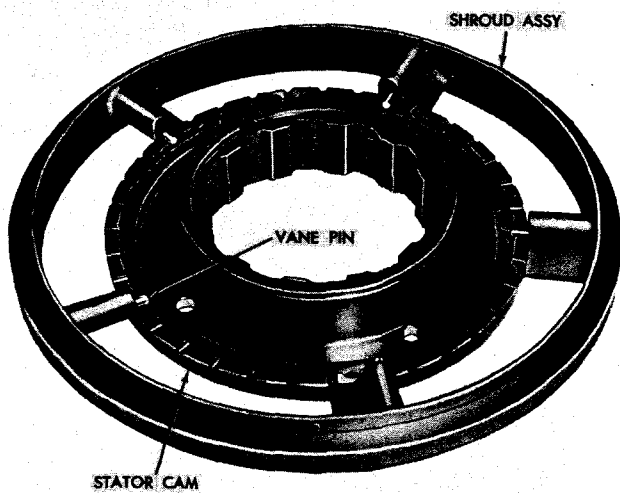

Fig. 6-4. Installing shroud assembly onto stator cam
(1) Lay the stator cam on a table with the flat (rear) side downward (fig. 6-4). Place the shroud on the housing, thickest section of the vanes upward, and seat the vane pins in place in the stator cam grooves.
(2) Install piston outer seal ring and expander assembly 15 (A, foldout 7) and piston inner seal ring and expander assembly 13 into their respective grooves in the piston, using the following installation procedures.